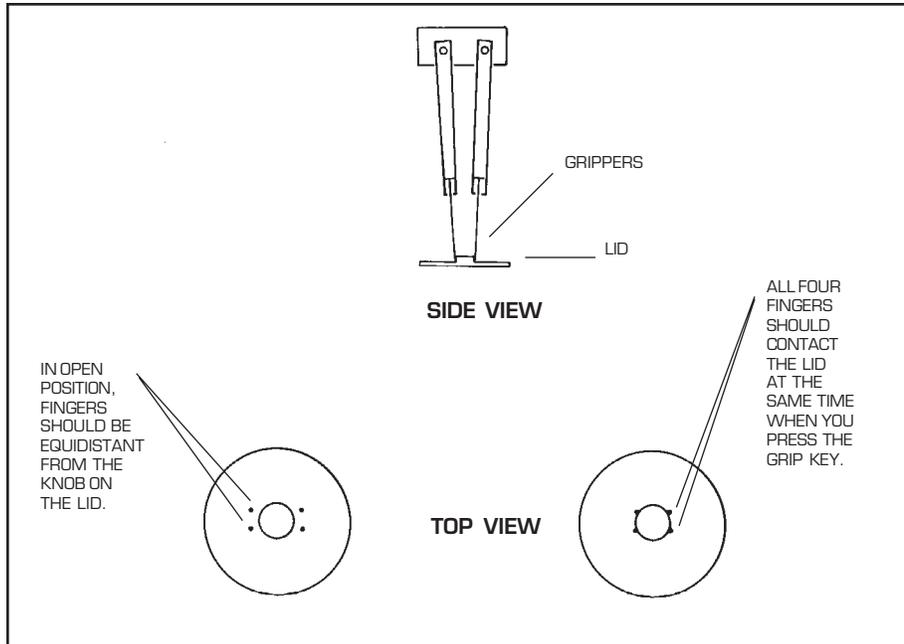

Figure 4.1
6. Use the motion keys to position the lid in its correct cell calibration position (see Table 4.1). Press the RELEASE and GRIP keys repeatedly to ensure that the fingers can firmly grasp the lid, and watch carefully to ensure that each finger contacts the lid at the same time (see Figure 4.1).
13. When the turret stops moving, close and open the grippers again and check your calibration against the criteria in Figure 4.1. Remember to release the lid. If the position is correctly calibrated, go on to step 14. If it is not, repeat steps 3 through 13 with lid #1.